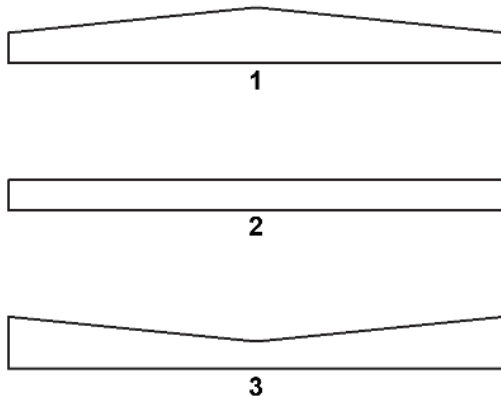

Figure 4-53. Crown Settings
- Positive crown is when the middle of the mat is raised to permit water to drain to each side. **(Figure 4-53)**
- Negative crown is the lower in the center of the screed plate, often used in an alley where drainage is necessary. **(Figure 4-53)**